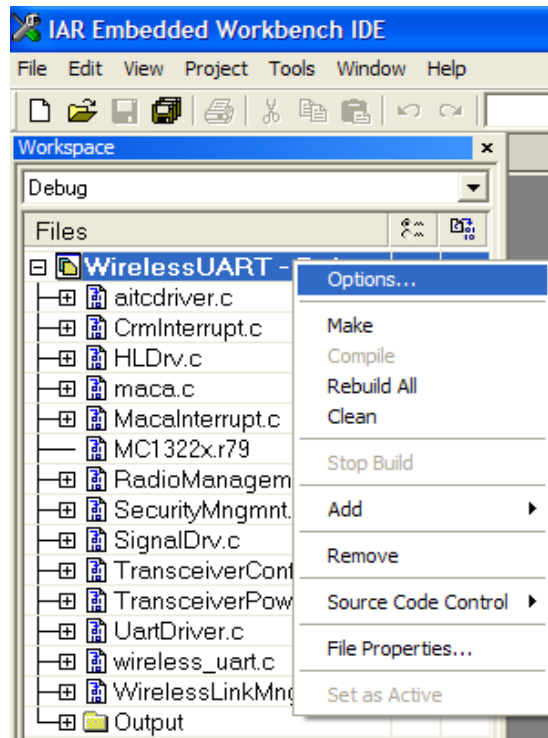

Figure 1-13. IAR Embedded Workbench Options Menu
- Right click on the project name and select “Options“ as shown in Figure 1-13.